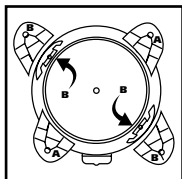

FIGURE 5
5. Take caster feet marked with the letter **B** and place on right front and left rear of tank also marked with the letter **B**. **FIGURE 5.**